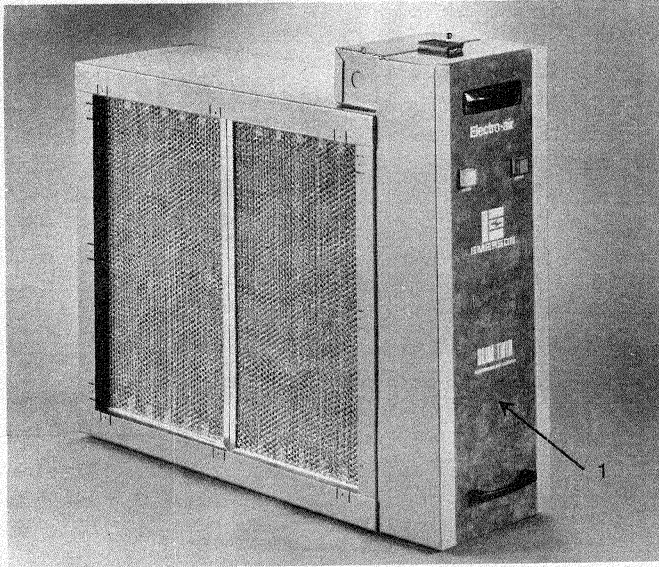

FIG. 1
1. Power Pack—(Fig. 1) This component houses the electronic circuitry necessary to develop the high voltage electrostatic field.